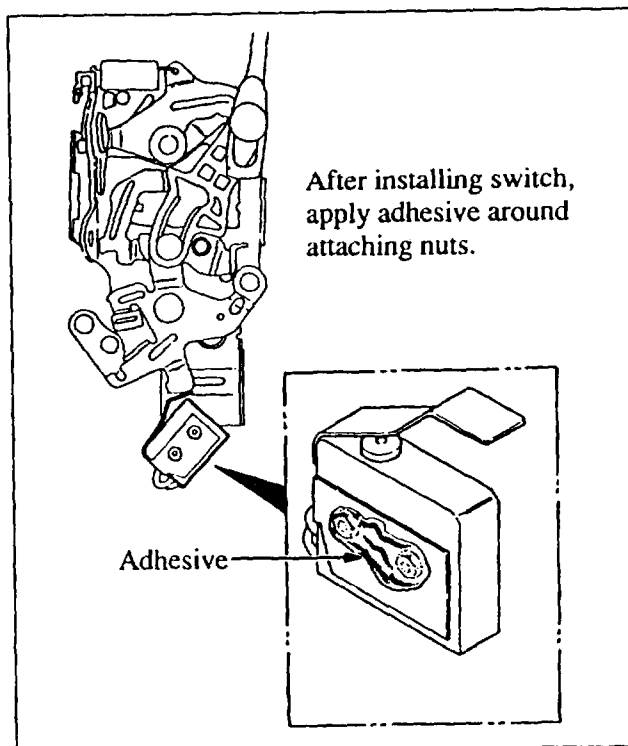

Figure 2: Applying Adhesive to Switch
- Using Three-Bond Synthetic Rubber-Type Adhesive (1521) or equivalent (silicon sealer), apply adhesive around the attaching nuts. **Figure 2.**